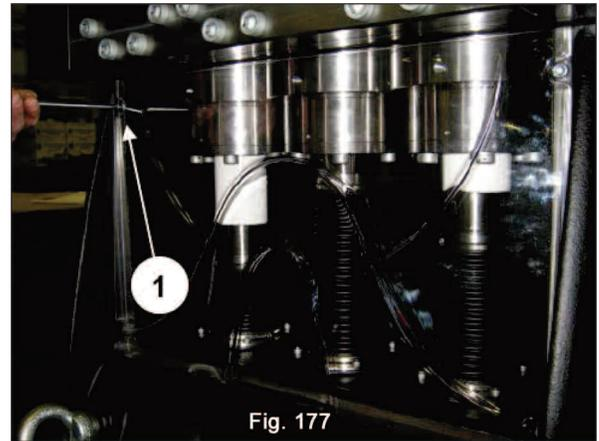
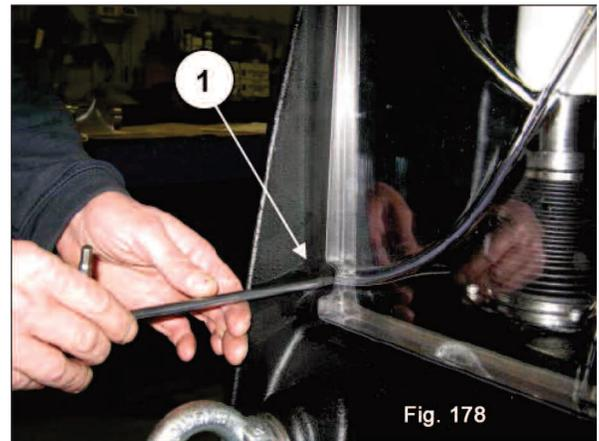

Fig. 177
Fig. 178
To gain access to the piston unit undo the (4) M6 screws and remove the upper inspection cover (1, fig. 177 and fig. 178).